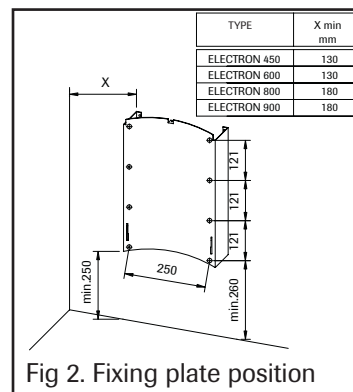

Fig 2. Fixing plate position
- Fasten the fixing plate for the stove on the wall as shown in Fig. 2. Use the 2 screws included in the delivery.